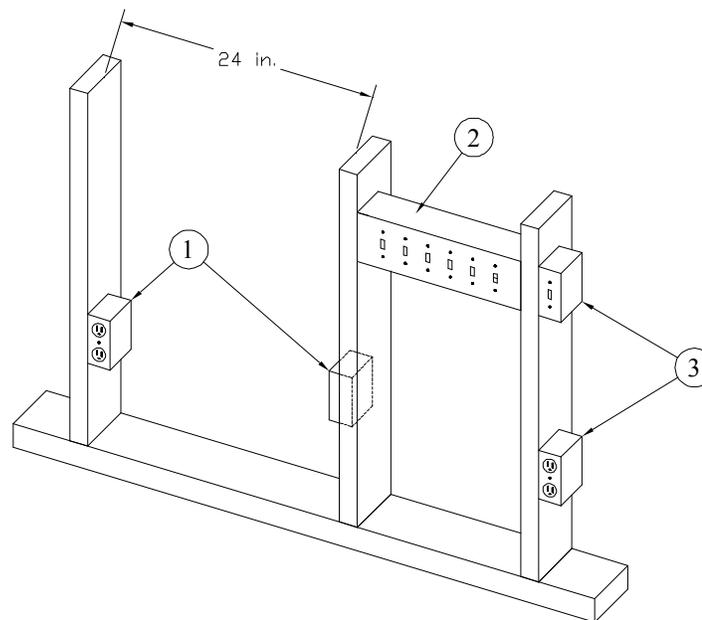

Figure 1 □ Where putty pads may be required
- The total area of a single penetration item may not exceed 16 sq. in. (See Item 2 in Figure 1)
- A minimum 24 in. horizontal separation is required between penetrating items on opposite sides of the wall. (See Items 1 and 3 in Figure 1)